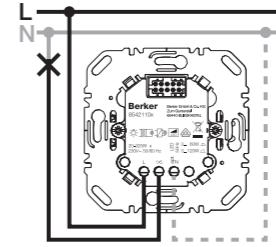

Figure 3: Push-button dimmer 1gang
- i** Connect the push-button dimmer according to the connection diagram (Figure 3 to 6).
- i** The push-button dimmers (comfort) 1gang, possess an optional N terminal (Figures 3 and 4). Operation without neutral conductor possible.